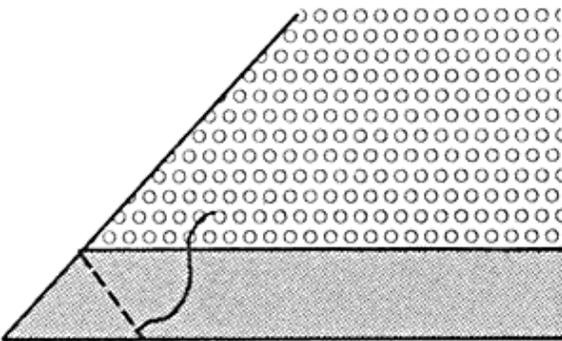

Figure 7.
4. Open the corner and refold the hem area on the bias with the right sides together. Machine stitch the two angled creased lines together (*Figure 7*).